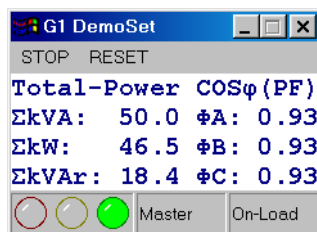

Figure 2: WinPanel GENCON^(R)#1
at real-time speed, see figures 2 and 3. A Modbus/TCP server gives HMI/SCADA systems on the LAN or in the same computer access to all GENCON^(R) measurements and statuses. The COMM2 unit is required. An optional IOB1 module adds 8 relays and 16 digital inputs for general supervision.